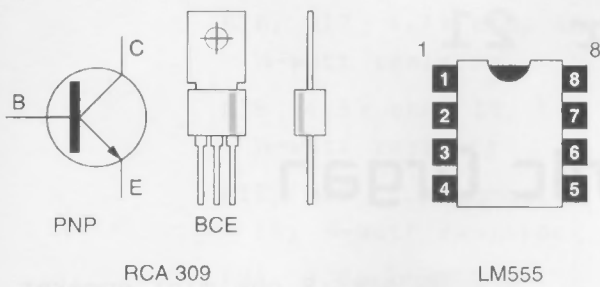

Figure 20-4 *Blacklight semiconductors*
Now look for the transistor, which will be installed at Q1. Transistors are generally three-lead devices and will be either a PNP device or a NPN device. Refer to the transistor identification diagram shown in Figure 20-4. Transistors will have three leads marked as follows: the flat side on the transistor symbol in the mounting diagram is the Base lead marked (B). The Collector lead comes off the Base lead at an angle. The third transistor lead is the Emitter which is opposite the Collector lead. The Emitter lead will have a small arrow which will point toward the interior of the transistor if the device is